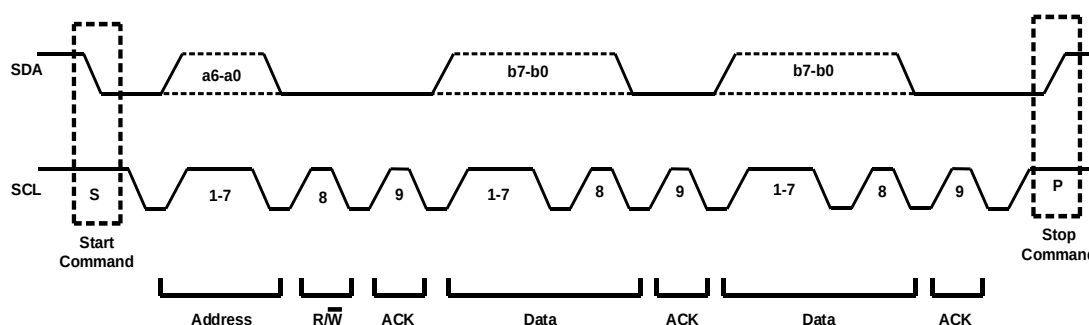

Figure 20: Start and Stop Conditions
The start (S) and stop (P) commands are signaled by the master device, indicating the beginning and end of the I²C transfer. In the start condition, the SDA signal transitions from high to low while the SCL remains high. In the stop condition, the SDA signal transitions from low to high while the SCL remains high (see Figure 20).